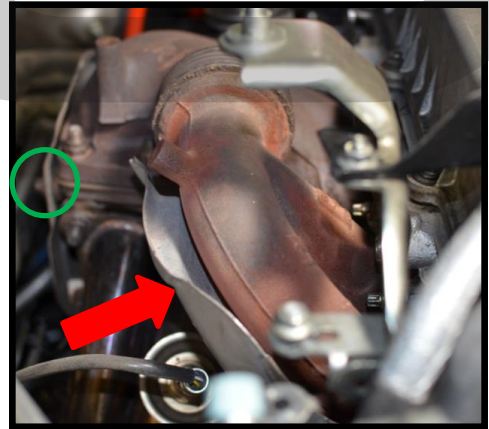
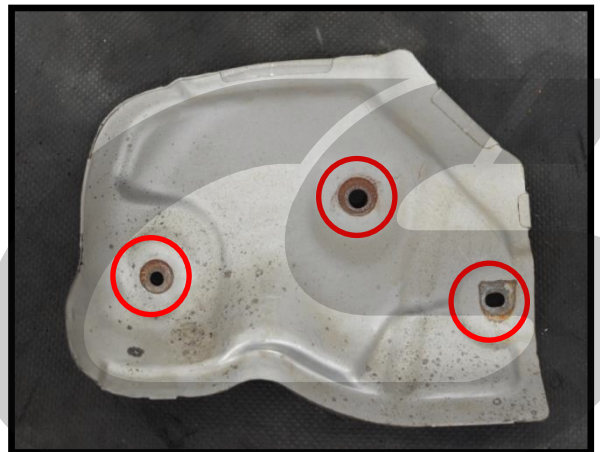

Figure 5b
Figure 5c
- c) Remove the three 8mm bolts holding the lower heat shield shown with the red arrow in Figure 5b and the red circles in Figure 5c. Then remove the heat shield.
- d) Remove the three 8mm bolt circled in green in Figure 5b. Then remove the heat shield.